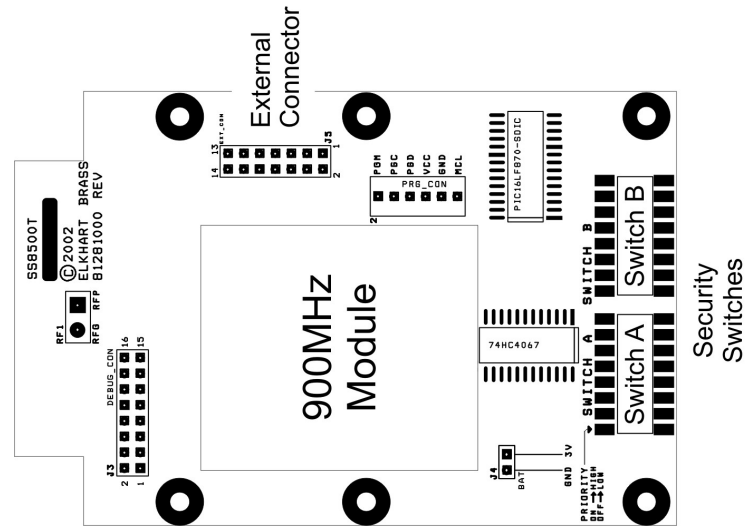

Figure 2: Handheld RF Controller Circuit Board
- Remove the battery cover from the handheld RF controller. Remove the four (4) screws holding the two halves of the cover together using a #1 size Pozidriv® screwdriver (use caution with a standard Philips screwdriver as it may strip the screw heads).
- Locate the security code switches on the circuit board (see Figure 2 on page 14).
- Locate the security code switches on the circuit board (see Figure 2).